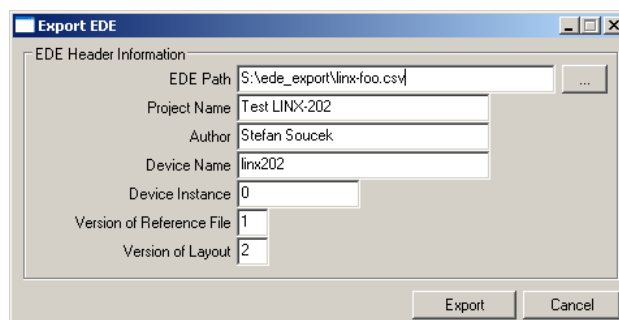

Figure 135: EDE Export Dialog.
2. Right-click and select **Export EDE ...** in the context menu. This opens the EDE export dialog to enter the EDE header information as shown in Figure 135.